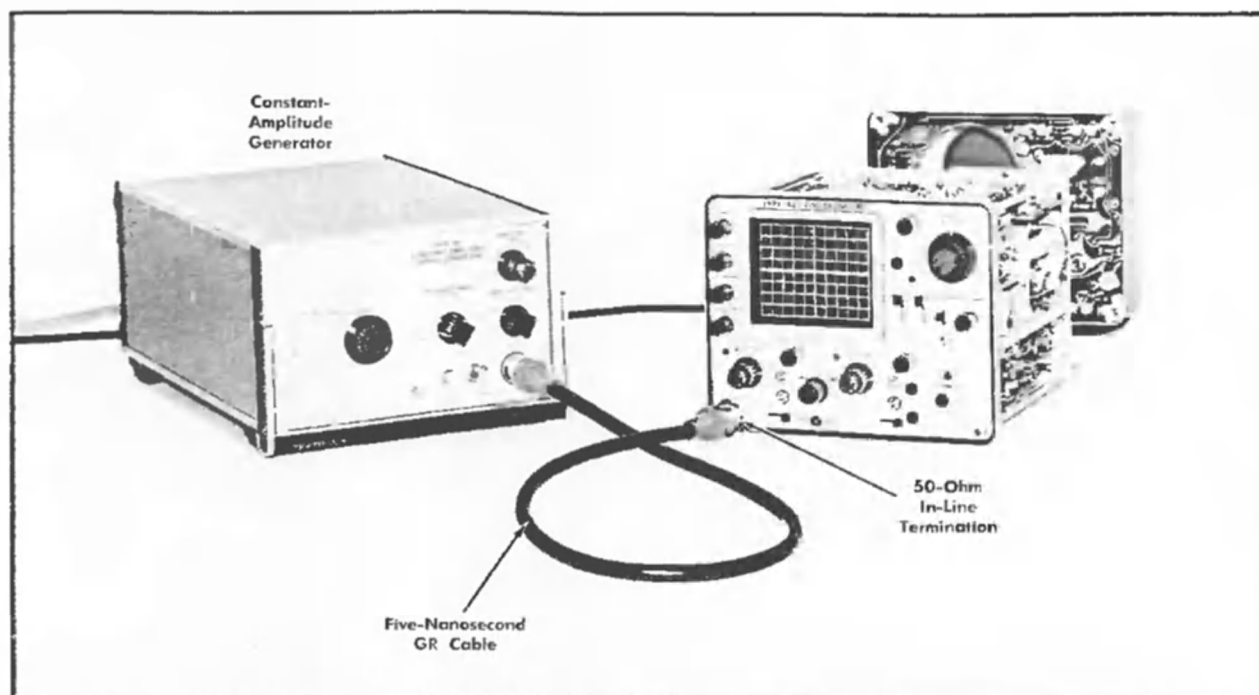

Fig. 6-25. Initial test equipment setup for steps 23—25.
- Test equipment setup is shown in Fig. 6-25.